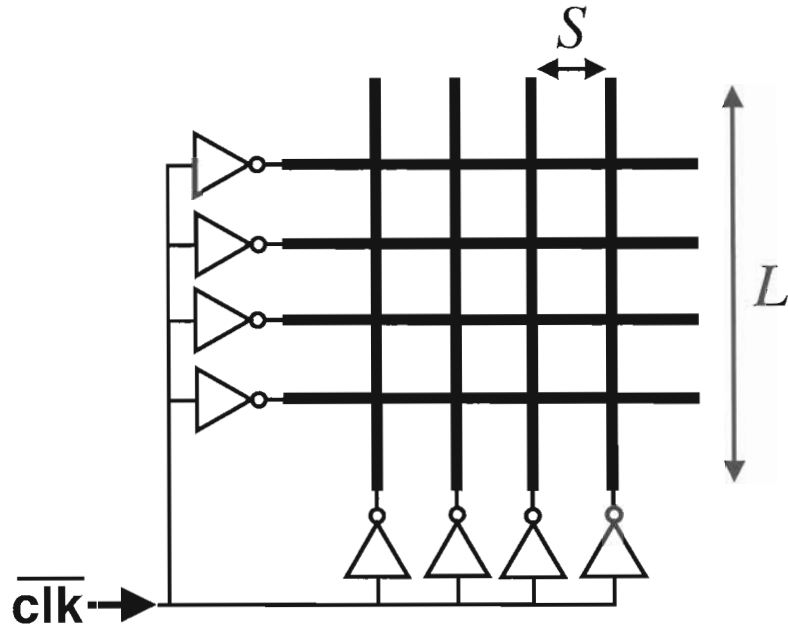

Figure 3: Final inverter stage for driving clock grid with wires of length  $L$ .
Figure 3 shows the final (parallel) inverter stage for driving a clock grid of long wires of length  $L$  running horizontally and vertically and shorted together at the intersections. Assume the transistor parameters listed in Table 1 and the wire dimensions and parameters shown in Figure 3 and listed in Table 2. Also assume  $V_{DD} = 1.0\text{V}$ .
**Problem 3.4 (3 points) Dynamic Power: Stepwise Driver.** Suppose the inverters in Figure 3 are replaced by stepwise drivers which first charge the clock grid to  $V_{DD}/2$  and then  $V_{DD}$  on a rising transition and then reverse this sequence on the falling transition. What is the new dynamic power assuming the capacitance you found in Problem 3.1?